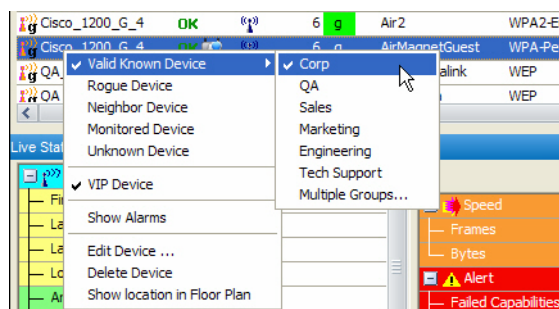

Figure 4-29: Assigning devices to ACL groups
- 1) From the AirMagnet Enterprise Console's Infrastructure screen, highlight the device or devices of interest and then right-click it or them. A pop-up menu appears. See Figure 4-29.